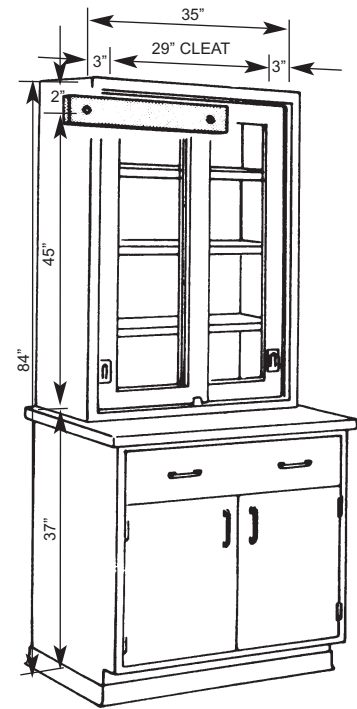

FIG. 15
2. First position and level the base cabinet(s) and worksurface(s). Determine the exact location of the cabinet(s), and mark the desired location of the top left corner on the wall. Locate wood cleat 2" below and 3" to the right of this mark (see Figure 15).